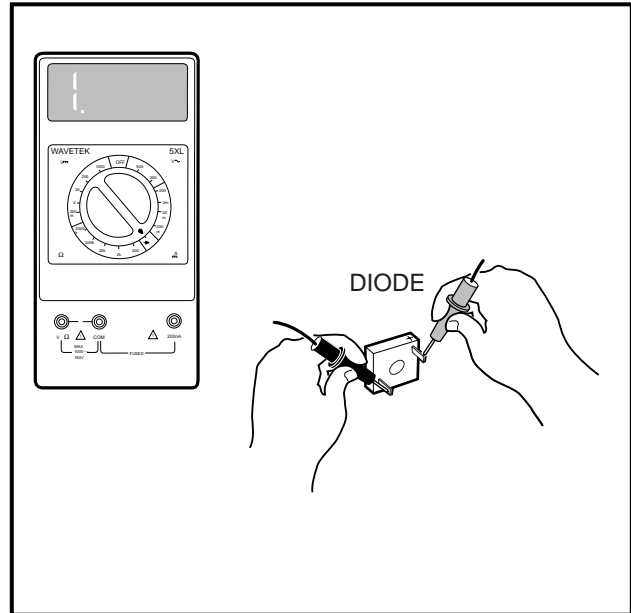

Figure 11-36 Diode Test – Probes Reversed
- Reverse the multimeter probes and note the reading. The multimeter should indicate an overload (no continuity) (**Figure 11-36, Page 11-31**). A diode is designed to conduct current in one direction only. If a diode conducts current (shows continuity) in both directions, the diode has failed and must be replaced. If a diode does not conduct current (does not show continuity) in either direction, the diode has failed and must be replaced. **See Diode Removal, Section 12, Page 12-14.**